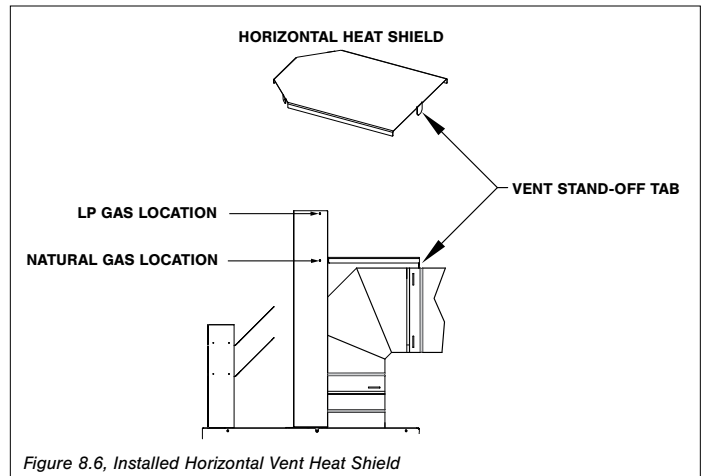

Figure 8.6, Installed Horizontal Vent Heat Shield
1. Bend perforation on the (3) hand-tabs down on the horizontal vent heat shield.
2. Locate (3) screw holes on the vertical vent heat shield. There are (2) sets of screws holes, allowing for either natural gas or LP gas minimum horizontal venting. See Figure 8.6.
3. Align the (3) slots on horizontal vent heat shield tabs to the corresponding (3) screws holes on the vertical vent heat shield necessary for your installation.